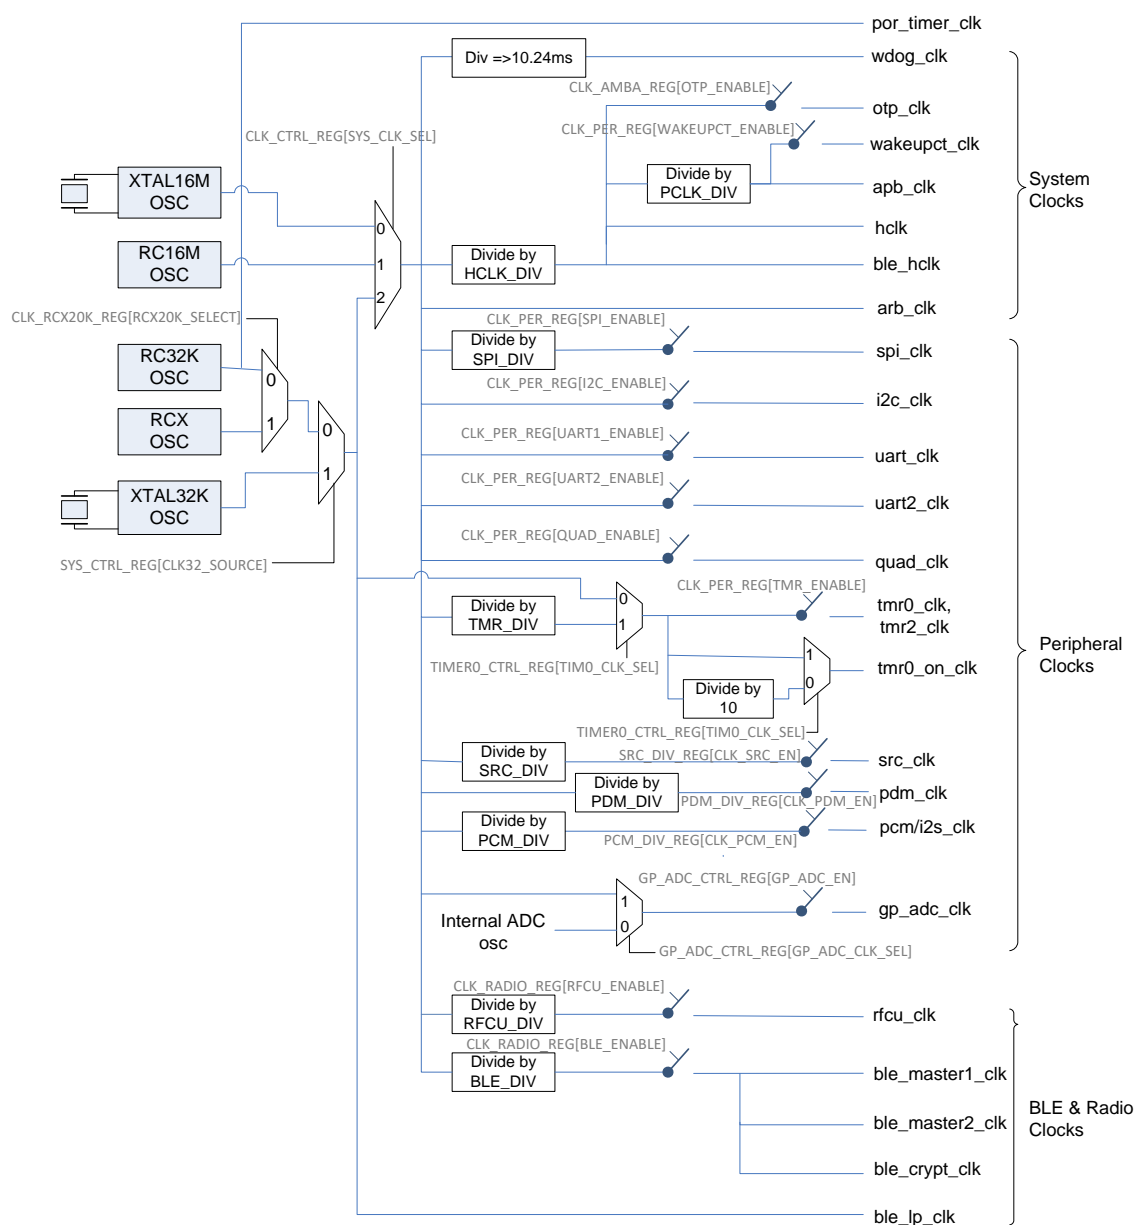

Figure 23: Clock Generation Block Diagram
The clock names depicted in Figure 23: Clock Generation Block Diagram are explained in Table 32.
- When the SPI block is set to Slave mode, then the spi\_clk (as depicted in Figure 23) should be at least 4x the clock frequency provided by the external SPI Master. This is required for proper sampling of the data line